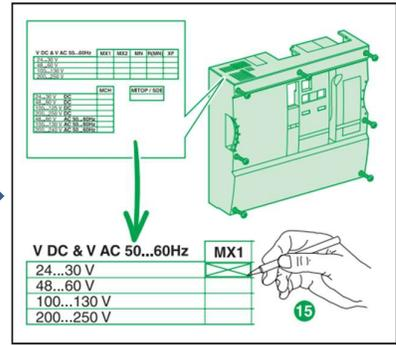

Fig. 9
- b. Or checking the testing table on the top of the cover (Fig. 9)